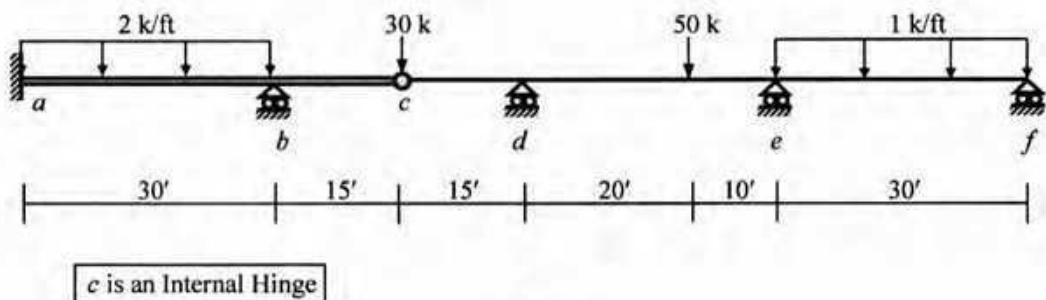

Fig. 6
9. Use Energy Method to calculate the plastic moment  $M_p$  necessary to prevent plastic hinge mechanism from developing in the beam  $abcdef$  loaded as shown in Fig. 6